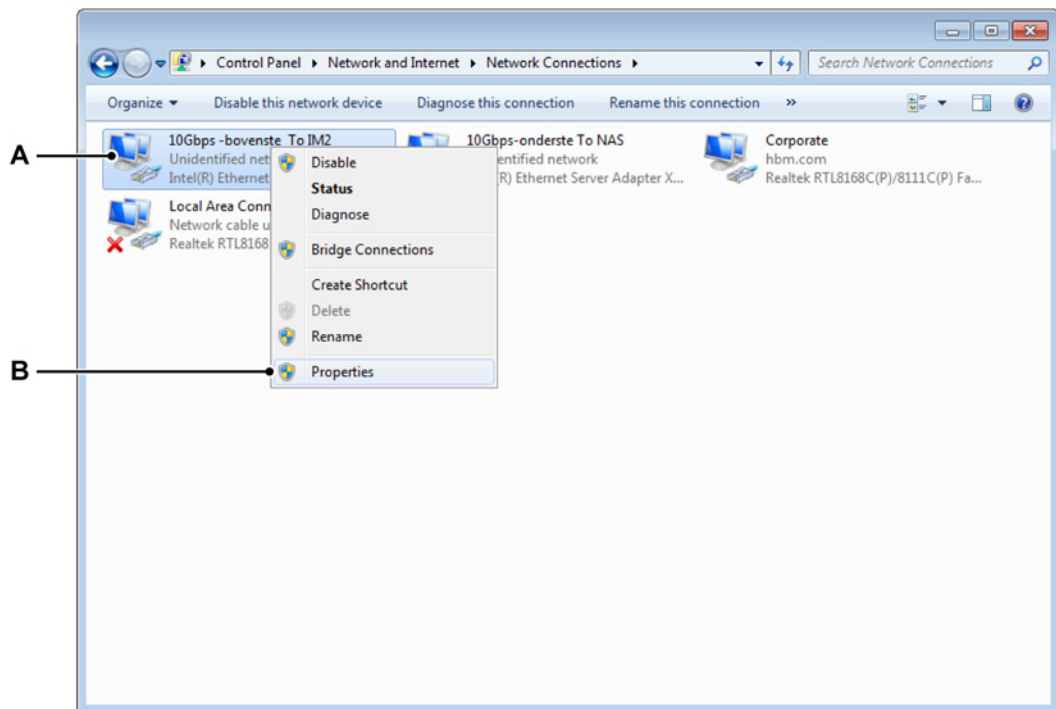

Figure G.3: Network Connections
- 3 The available adaptors in **Network Connections** should be shown as in the following Figure G.3.